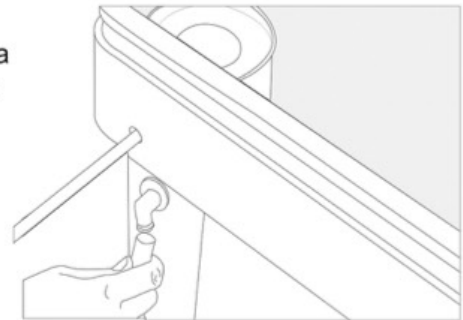

Figure 19
- Finally, use 1/2" I.D. tubing to connect the drain bar fitting on the brine tank to a floor drain as shown in Figure 19. NOTE: This is not necessary as the 2310 assembly is designed to prevent an overflow situation, but is a good and recommended precaution for a proper installation.